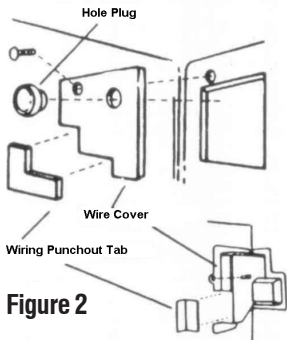
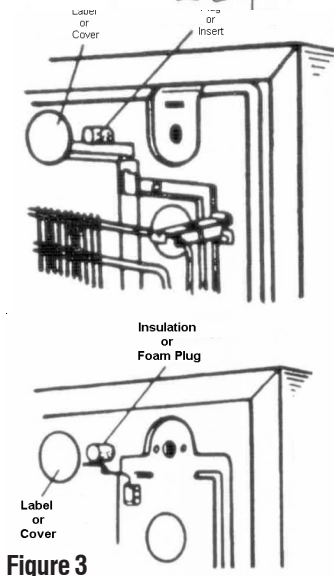

Figure 2
Figure 3
3. Looking at the back of the refrigerator, for external condenser coil models see Figure 2, for smooth back or external wiring models see Figure 3. **SAFETY! For external condenser models, cover the wire grid along the top with card board or cloth to protect you from cuts and scrapes.** If you have an external condenser coil, you may need to loosen the right side mounting clips to route the water fill tubing and to attach the fill tubing mounting clips. **Caution, be careful with the coil if you have to move it, damage can occur to the cooling system.**
4. Locate the inlet cover for icemaker installation, for external condenser coils see Figure 2, for smooth back models see Figure 3. The inlet cover may have a plug or a label covering the inlet opening. If it is a plug, gently remove the plug with a putty knife or screwdriver. If there is a label, there will be a "cut here" pattern, using a sharp knife to cut as directed on the label. Remove the underlying insulation using needle nose pliers. Fold cut label into opening to clear opening.